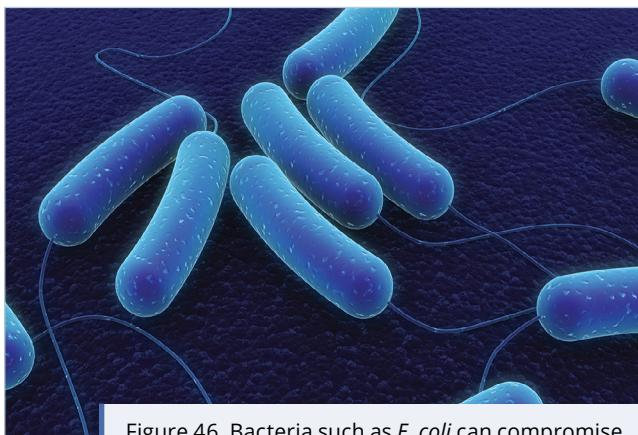

Figure 46. Bacteria such as *E. coli* can compromise human health and can indicate that other contaminants may also be present in groundwater.
- ▶ Bacteria such as *E. coli* 0157:H7 (Fig. 46), *Salmonella*, *Campylobacter*, *Pseudomonas*, *Helicobacter*, *Aeromonas*, *Vibrio cholerae*, and *Shigella*